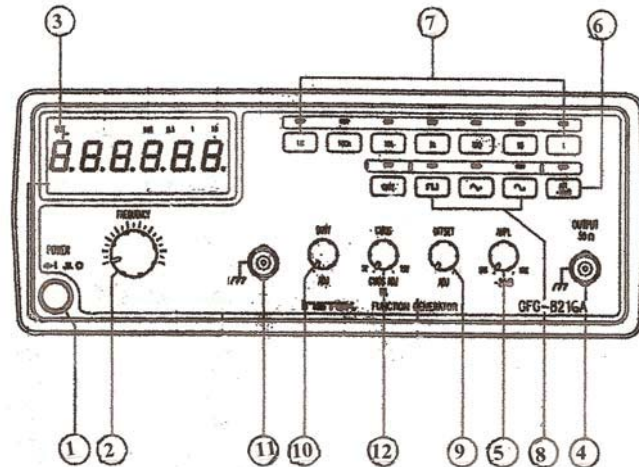

Figure A4 : Front panel of Function Generator
Description of front panel items (according to the indicated item number in Figure A4)
**The Instek GFG-8216A FUNCTION GENERATOR** : The front panel of the GFG8216A function generator is shown in Figure A4, followed by brief descriptions of various controls. **The student should become familiar with all the features of the FG.** The FG also has two other input connectors on the rear panel, which are not used for this lab. [The front panel button labelled “Gate” operates only when the ‘counter’ input on the rear panel is used, and is not described in the explanation of terms following Figure A4]
2. Press AUTOSET located at the top part of the panel. Pressing this button automatically selects the proper settings required for an *optimum* display of the signals applied to the input terminals. Pressing AUTOSET with no applied input, for example, displays the typical screen shown in Figure A4 which shows ‘noise’ voltages appearing across the BNC-to-Banana Jack adapter input terminals